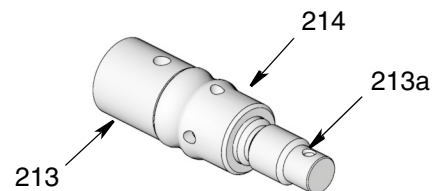
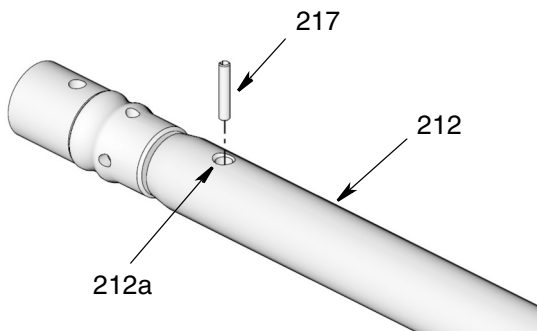

FIG. 36
FIG. 37
5. Slide together piston rod (213) and piston seal (214) (FIG. 36).
6. Thread piston rod (213) into end of displacement rod (212). Hand tighten the two pieces together securely, ending with hole (213a) (FIG. 36) aligned with hole (212a) (FIG. 37).
7. Install pin (217) through the aligned holes [(213a (FIG. 36) and 212a (FIG. 37)]. Support rods (212 and 213) as needed to ensure the rods do not bend. Use a pick and hammer to seat the pin inside the rods.